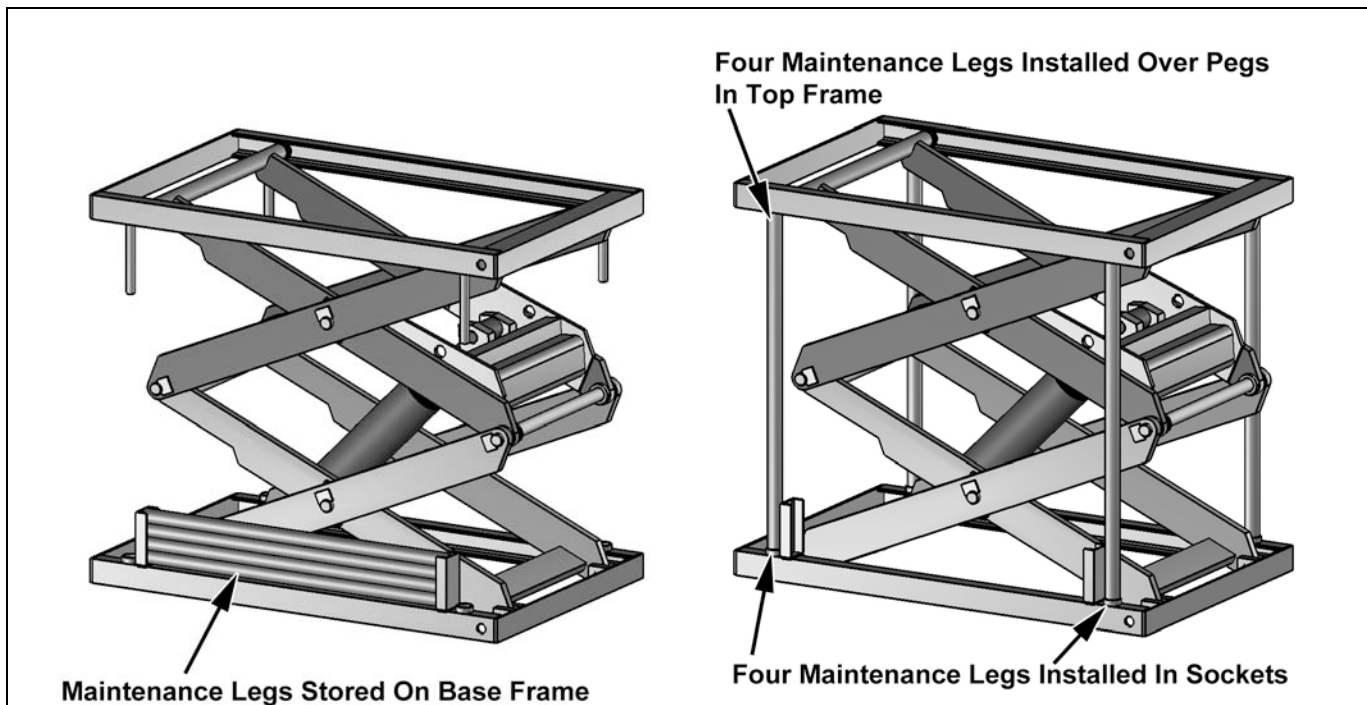

Figure 6.1
3. The lift will be provided with maintenance legs stored on one of the scissors arms, or with two (2) drop-in maintenance locks stored on the outside of the base frame. The legs must be placed over pegs in top frame and within sockets in bottom frame (See Figure 6.1).